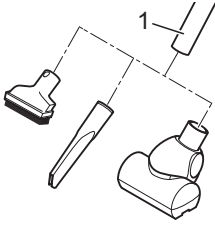

Fig.9
5. Push the desired nozzle onto the lower end of the telescopic tube (Fig. 9/1).